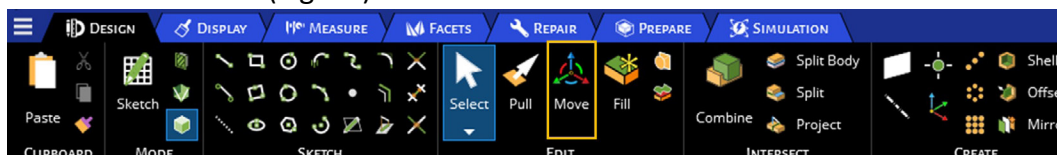

Figure 11: Selecting Move tool.
2. Select the “Move” tab (Fig. 11).